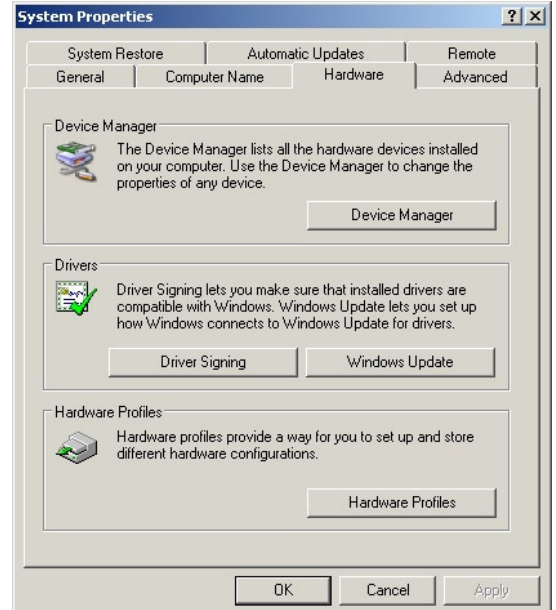

Figure 6: Hardware Properties
- 2) Browse to the Hardware Tab (Figure 6), Click the Button labeled “Device Manager”.